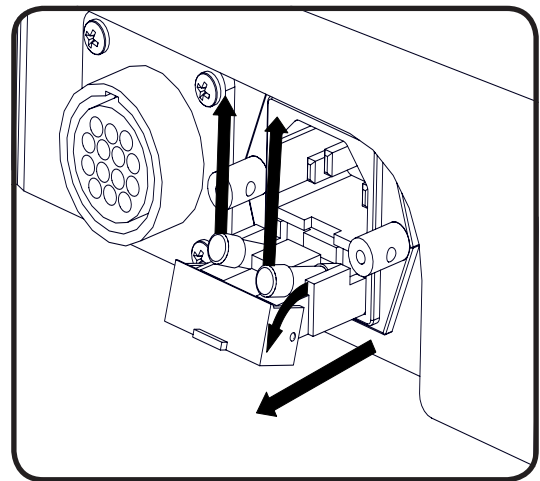

Figure 1
4. Insert new fuse(s) with same type of fuse removed in step 3. (See figure 1 below) See "SPECIFICATIONS" on page 25 for fuse type.